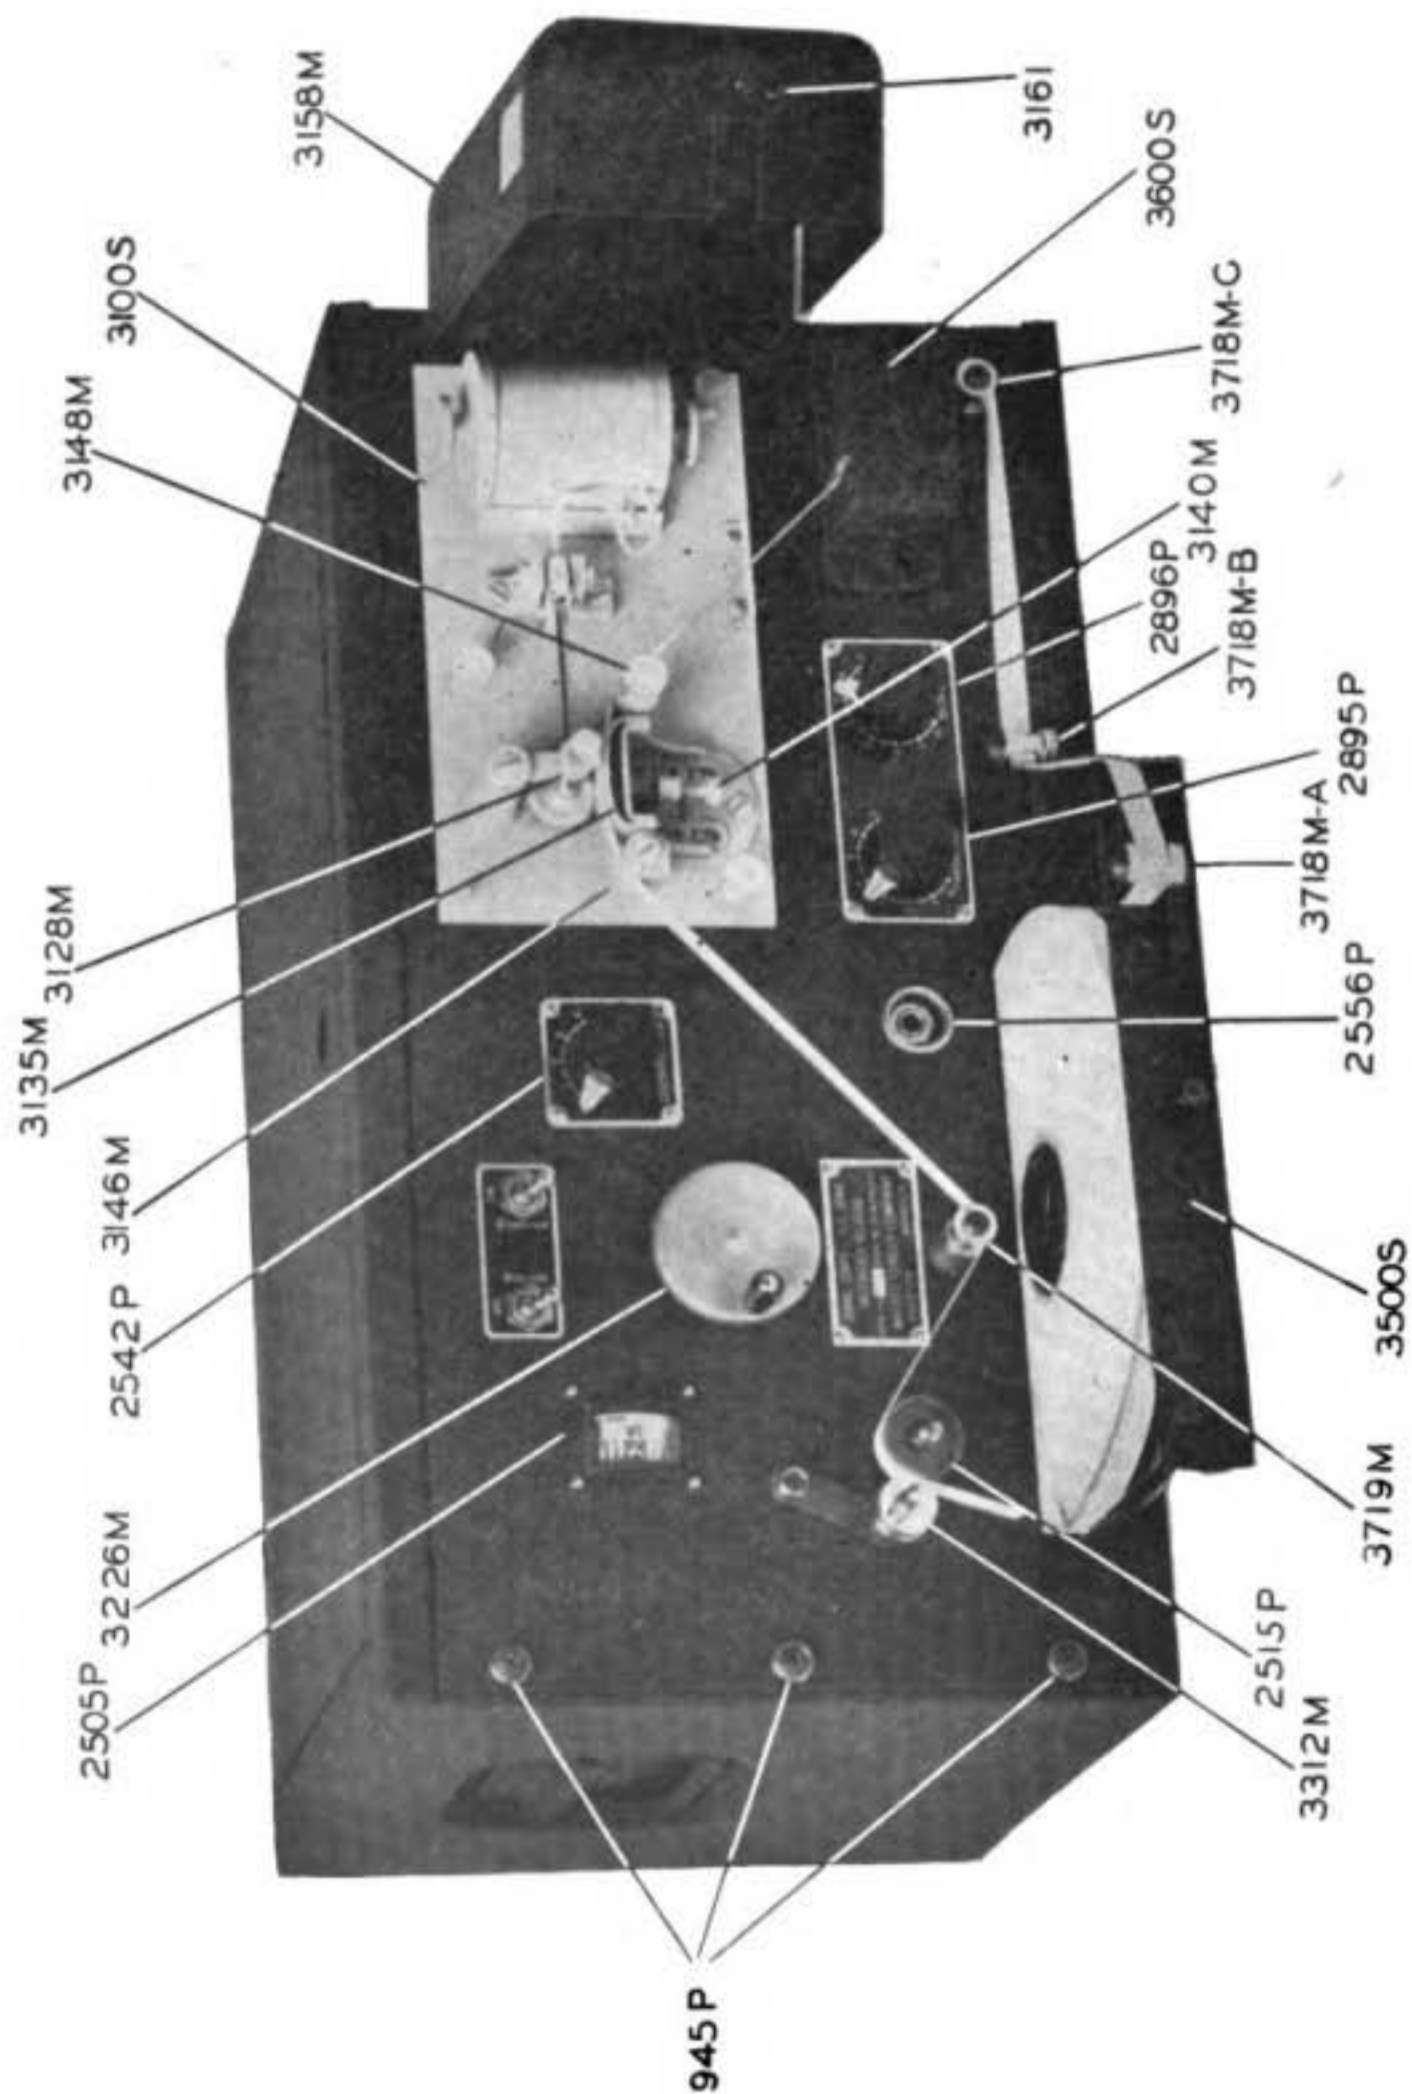

Figure 4—Recorder BC-1016, Front View—Cover of Inker Assembly Open
8. REMOVE AND REPLACE SEVERAL TIMES THE HINGED COVER [(3158M), FIG. 4] PROTECTING THE PEN MECHANISM UNTIL YOU ARE COMPLETELY FAMILIAR WITH HOW THIS IS DONE. THE RECORDER CAN BE OPERATED WITH THIS COVER ON OR OFF. COVER HINGE IS OF SPLIT TYPE. AFTER RELEASING CATCH (3161) AND OPENING COVER, PUSH UP TO REMOVE. THE CATCH TO HOLD COVER FIRMLY IS LOCATED AS SHOWN IN FIG. 4.
(2) *Rack Mounting.*—If recorder is to be mounted on a standard 19-inch (relay) rack, take the unit from the cabinet by removing the six screws (945P, FIG. 4) on the ends of the panel and the three screws holding the rear of the chassis to the bottom of the cabinet. The panel and chassis are rigidly fastened so that the recorder can be mounted by the same panel screws to the relay rack. When so mounted, hook up line cord and input leads as described in PAR. 7d (1).
e. *Tape Threading.*—(See FIGS. 4, 5, and 6.) Place a roll of tape in the tape drawer (3500S) so that as tape feeds the roll turns clockwise (to right). Pass the free end of the tape through the slit in the front panel of the drawer; close the drawer. Pass the tape to the right over roller [3718M (A)] and inside guide roller [3718M (B)] around roller [3718M (C)] and through the dust collector (3600S). Swing pen adjusting arm (3128M) out of the way to the left. Pass tape over adjustable roller (3148M) over tape anvil (3135M) over roller (3146M) and under roller (3719M).
8. OPERATION.—(See FIG. 4 for control markings.)
f. *Tape Speed.*—The tape speed control knob (3226M), located in the left center of the front panel, controls the speed of the tape travel through the recorder. The illuminated indicator dial (2505P) is calibrated to show the speed of the tape through the recorder in feet per minute. (See FIG. 4.)
9. **MONITORING.**—The input signal may be monitored by plugging a pair of standard high impedance headphones such as Headset P-18 or P-20 into the monitor jack (2556P, FIG. 4) provided for this purpose on the front panel. This jack is connected across the input terminals of the recorder.